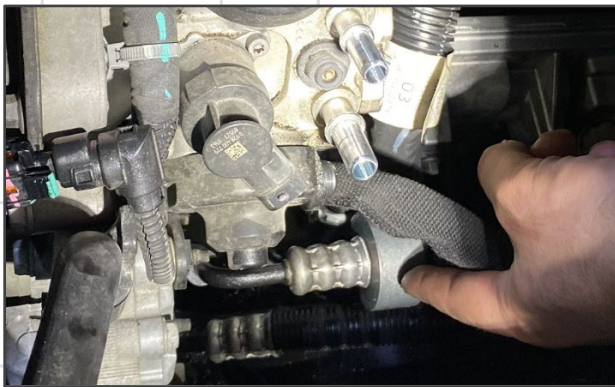

Figure 13 (Before)
14. Bend power steering line (Figures 13 & 14):